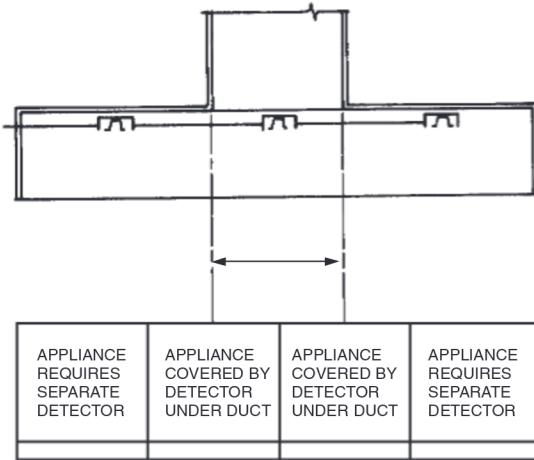

FIGURE 100
- is not more than 12 in. (30 cm) into the duct. See Figure 100.